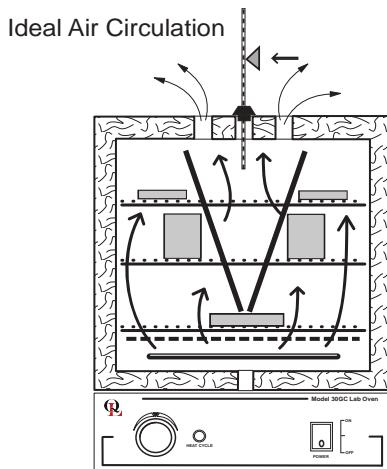

FIG. 4
- Stagger articles from those on lower shelves in a "V" formation for best performance. (FIG. 4)